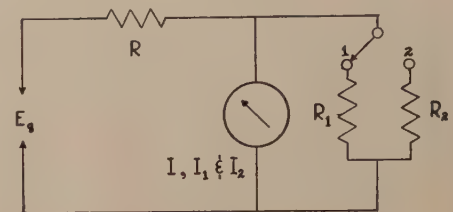

Fig. 2
circuit. It is possible to correct for this with an equation similar to equation (7). Consider the circuit shown in Fig. 2.